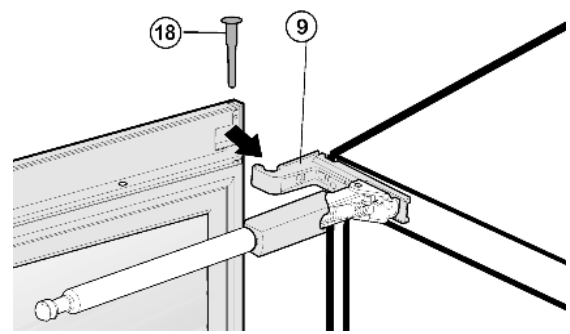

Fig. 18
- ▶ At the top, move the door over the turn hinge Fig. 18 (9) and insert the Fig. 18 (18) bearing pin.